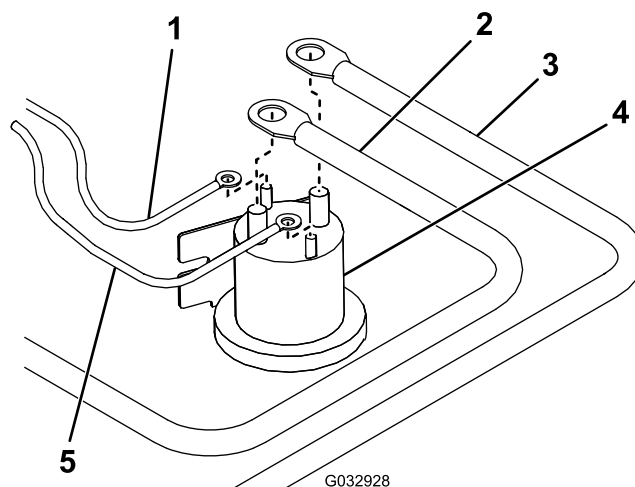

Figure 17
18. Connect the white/black wire from the long wire harness to the small post on the pump solenoid (Figure 17).
19. Connect the brown wire from the long wire harness to the other small post on the pump solenoid (Figure 17).
21. Connect the red power/ground cable to the large post on the pump solenoid (Figure 17).
22. Connect the battery cable to the other large post on the pump solenoid (Figure 17).